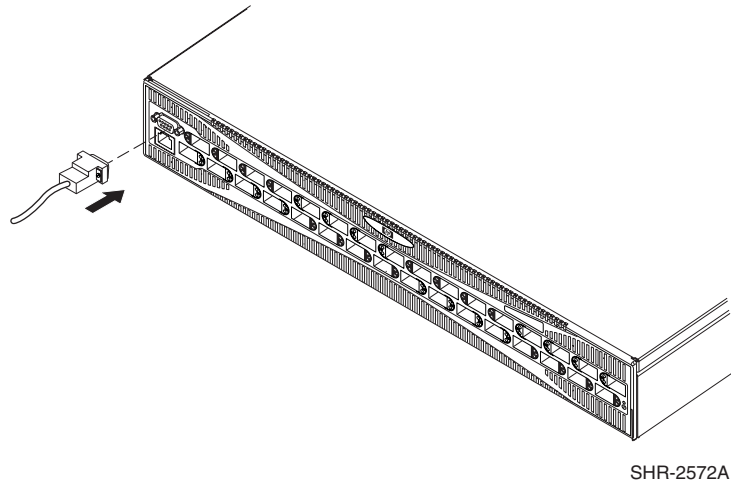

Figure 14: Connecting the Serial cable
2. Connect the Serial cable to the SAN Switch 2/32 serial port as shown in Figure 14.